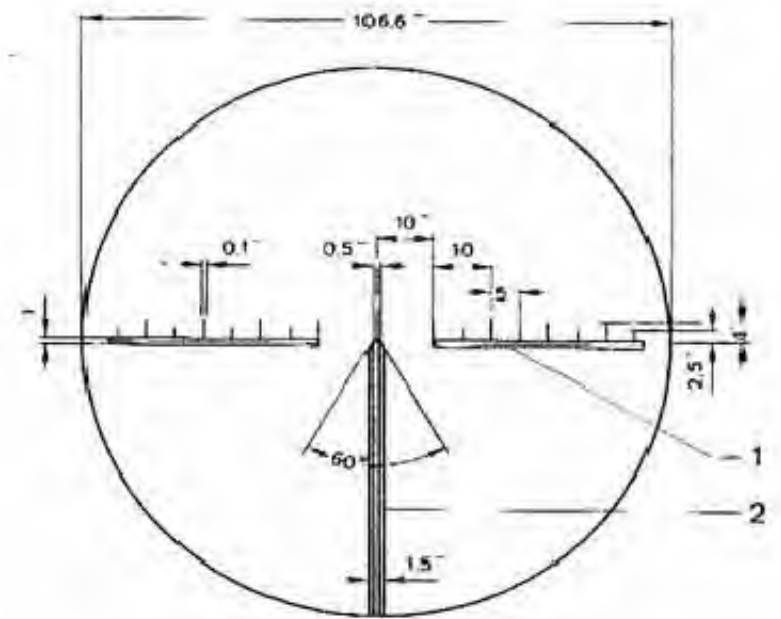

Fig. 5 FER0-Z 24
- 2.3 Putting Telescope Sight into Operation and Boresighting (Fig. 5)**